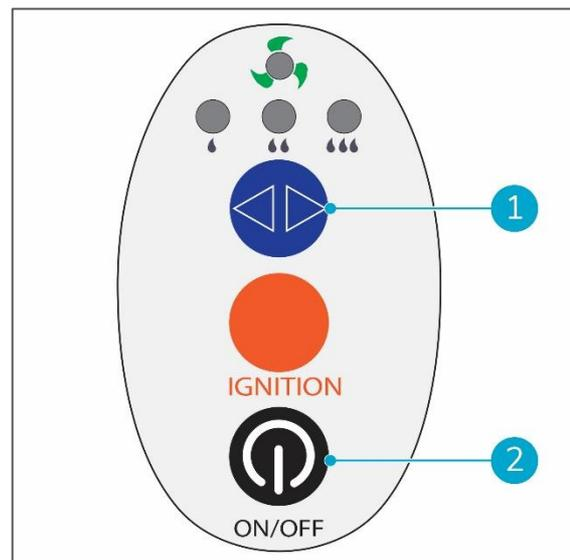

Figure 33
2. Make sure the drip tray (Figure 33, pos 2) is attached to the machine.
3. Make sure the steam lance (Figure 33, pos 1) is in the holder.
13. Clean the drip tray (Figure 33, pos 2).